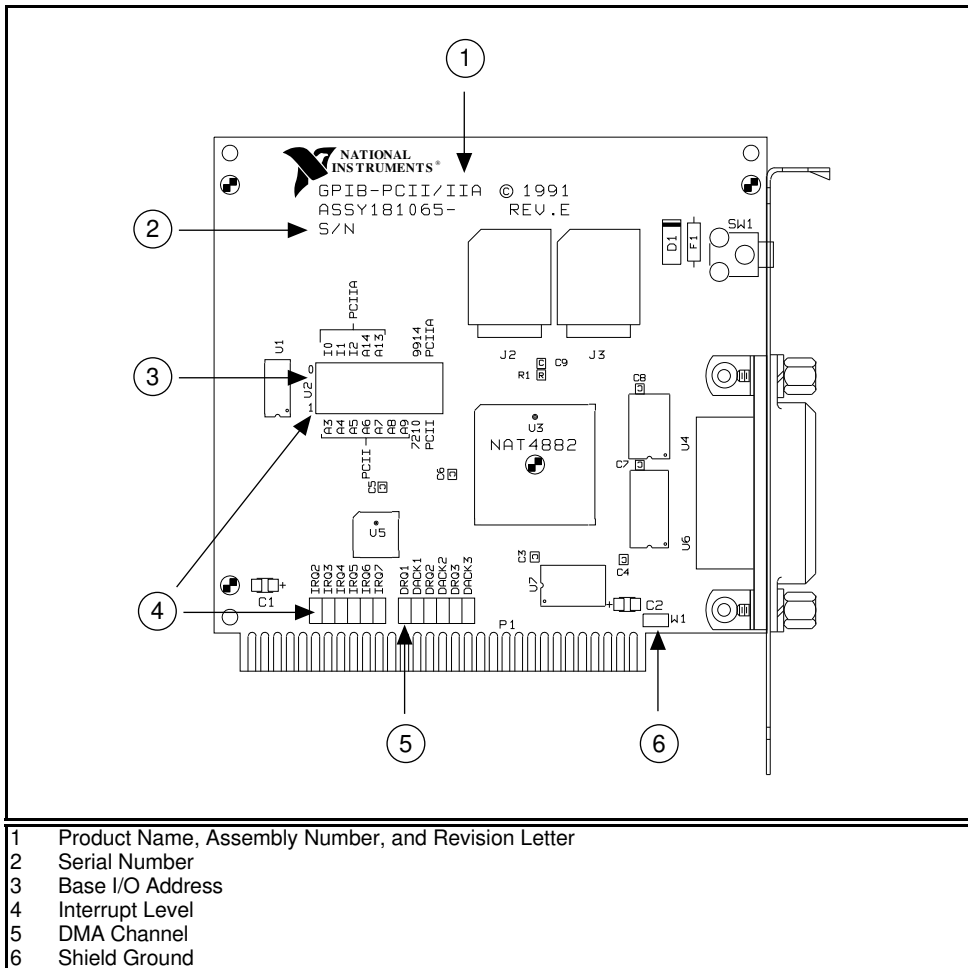

Figure 2-2. GPIB-PCII/IIA Parts Locator Diagram
Figure 2-2 shows the location of the configuration jumpers and switches on the GPIB-PCII/IIA.
2. Locate the base I/O address switch at U2 on your GPIB-PCII/IIA board. Refer to Figure 2-2.